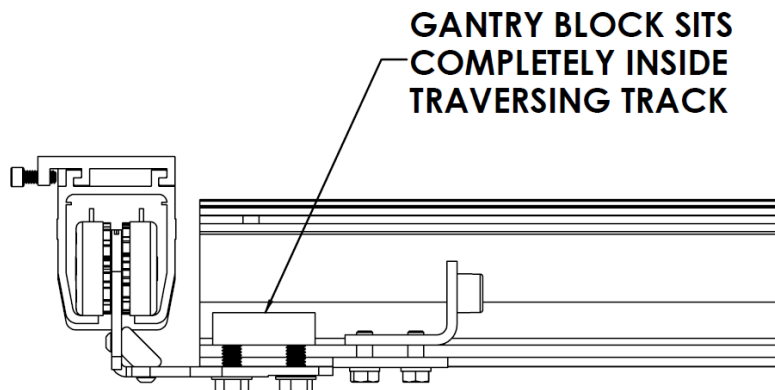

Figure 46: ***Gantry Blocks Inside Traversing Track***
2. Measure and cut the traversing track so that, on each end, the above mount gantry mounting blocks sit completely inside the track once installed (Figure 46).